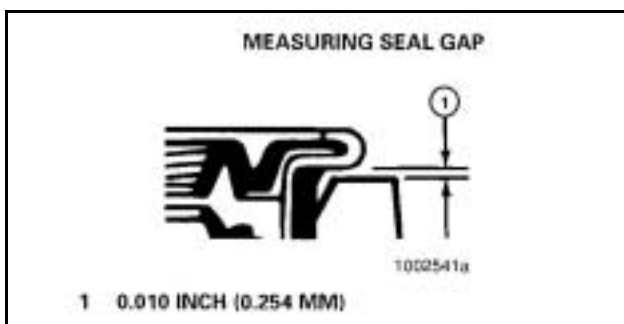

Figure 51
- **If the 0.010-inch shim slides between the seal flange and bearing cage:** Correctly position the seal driver and drive the seal into the bore until the 0.010-inch shim cannot slide between the seal flange and bearing cage at any point around the seal flange. **Figure 51.**